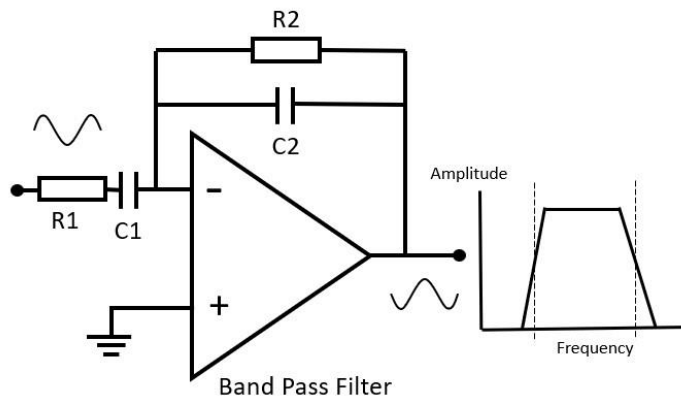

Figure 11: Band Pass Filter.
10. The **Band pass filter** is a unity gain amplifier. R_1 and C_1 determine the high pass cut off while R_2 and C_2 determine the low pass cut off (Figure 11).